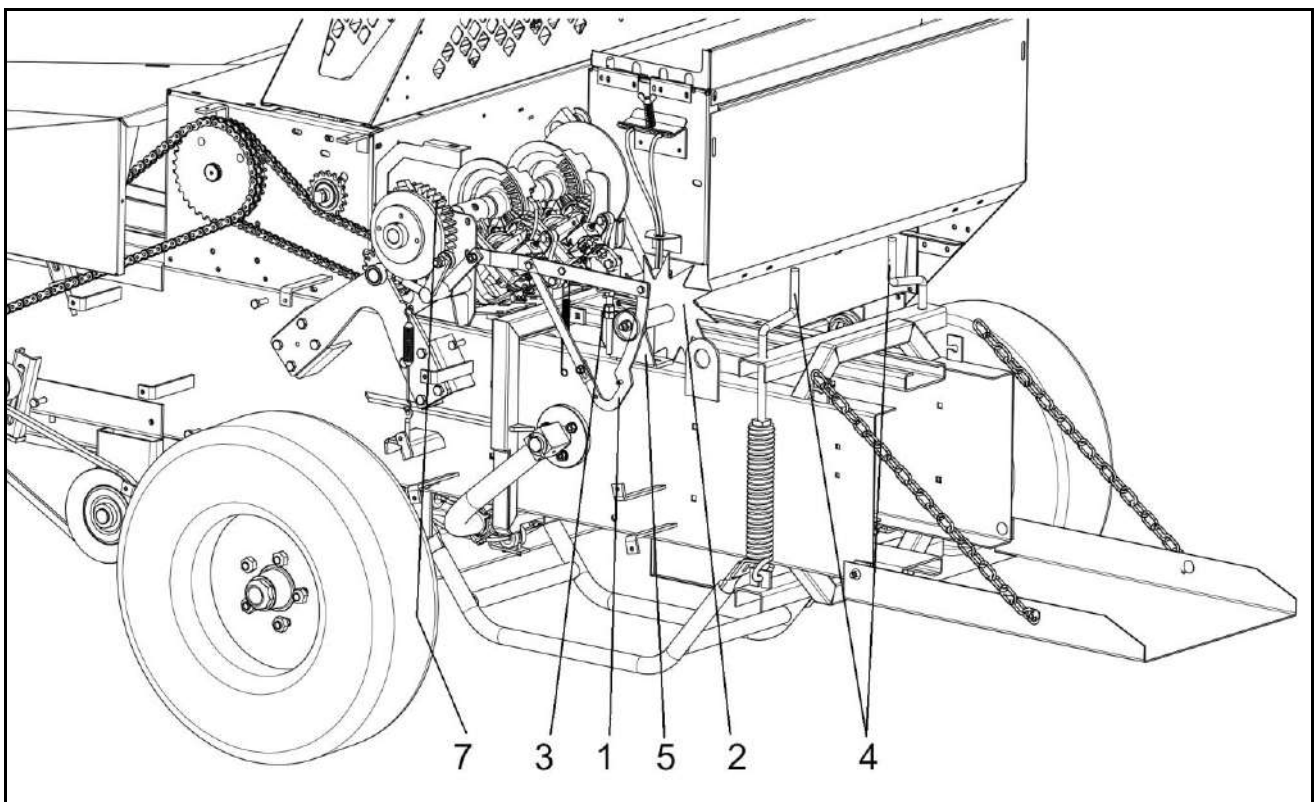

Fig. 7.21
Adjustments are made with the adjustment screw (ref. 3, Fig. 7.21), after loosening the lock nut.